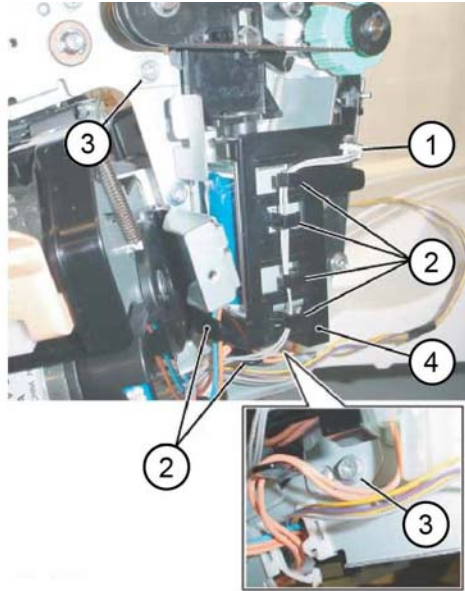

Figure 2 Sub paddle solenoid assembly removal
7. Remove the sub paddle solenoid assembly, Figure 2:
- a. Disconnect the connector (1).
- b. Release the harness from the retainers (2).
- c. Remove two screws (3).
- d. Remove the sub paddle solenoid assembly (4).